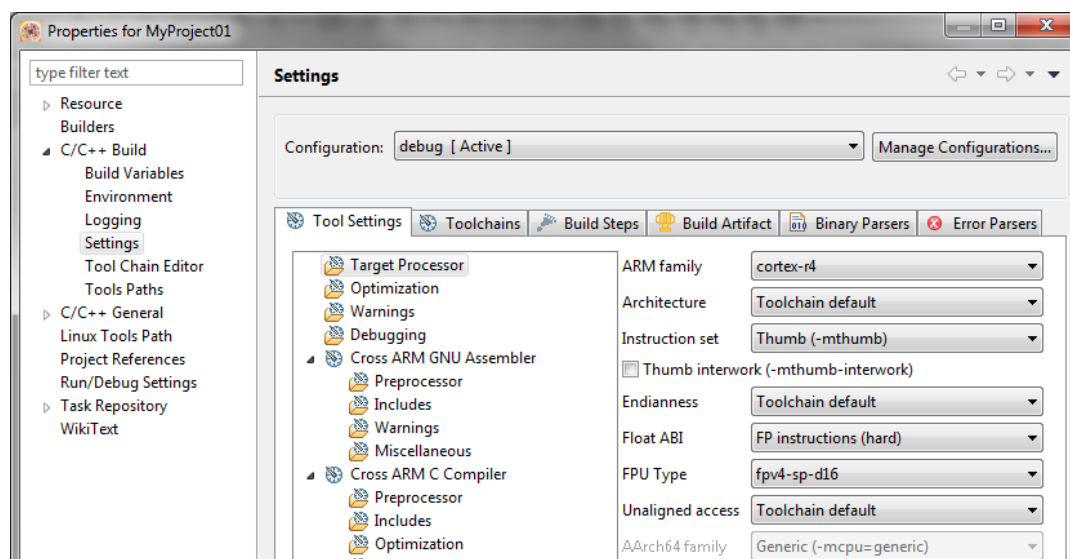

Figure 1-4. FPU setting
9. In the right-hand part, set the Float ABI as FP instructions (hard) and FPU type as fpv4_sp_d16. See Figure 1-4.